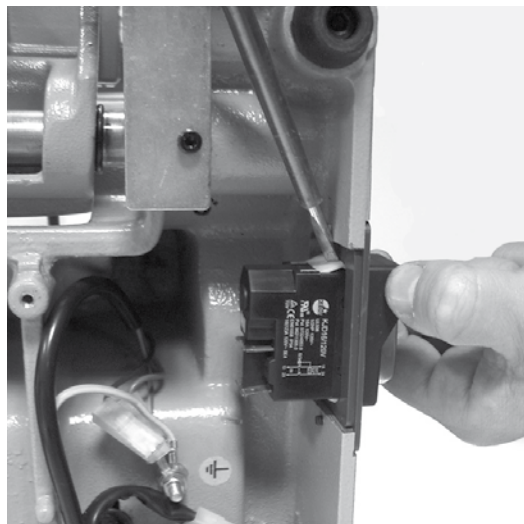

Fig.37
- 3) Remove the switch making pressure on the tabs with a screwdriver (Fig.37).